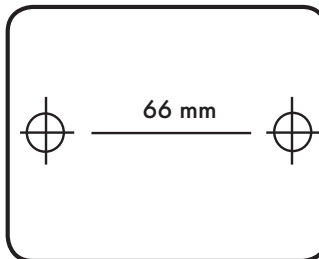
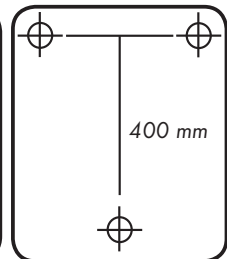

Fig. 2: Drill holes
Fig. 3: Drill holes
1. Mark the 2 drill holes with regard to the distances indicated in Figure 2. Use 3 drill holes when the item is wall mounted with towel holder (see Fig. 3)